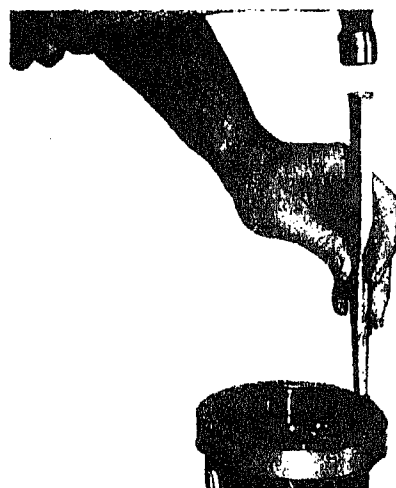
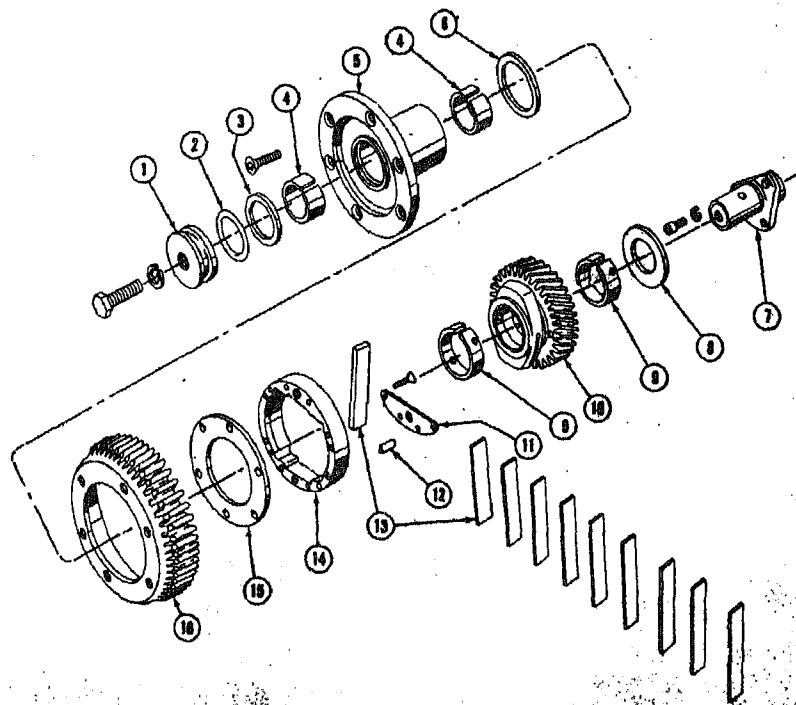

Fig. 1-3-1. Installing idler leaf springs
Fig. 1-3-3. Supercharger idler gear — exploded view
- a. Remove capscrews and idler drive hub (5, Fig. 1-3-3), blower gear (18), thrust washer (6) and spring retaining cover (15) from assembly.
- b. Carefully pry and remove idler leaf springs (13), 4 spring-retaining pins (12), and separate idler driven gear from spring retainer.
4. Check supercharger idler gear bushings (9) and idler hub bushings (4). See Table 1-3-2.
7. Place spring retainer over idler driven gear cam, idler leaf springs and four pins in place, Fig. 1-3-1.